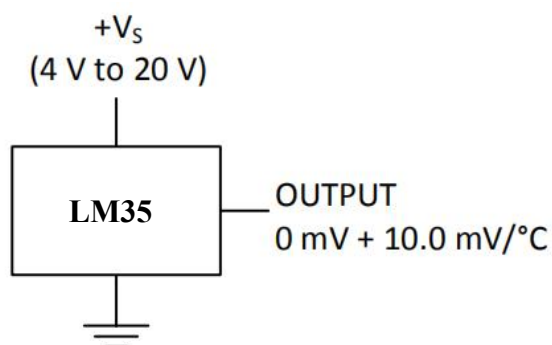

Figure 1. Basic Centigrade Temperature Sensor (2°C to 150°C)
Unless otherwise noted, these specifications apply: $-40^{\circ}\text{C} \leq T_J \leq 125^{\circ}\text{C}$ for the LM35C; and $0^{\circ}\text{C} \leq T_J \leq 100^{\circ}\text{C}$ for the LM35D. $V_S = 5\text{Vdc}$ and $I_{\text{LOAD}} = 50 \mu\text{A}$, in the circuit of Full-Range Centigrade Temperature Sensor. These specifications also apply from 2°C to T_{MAX} in the circuit of Figure 1.
(1) Tested Limits are ensured and 100% tested in production.
- (2) Design Limits are ensured (but not 100% production tested) over the indicated temperature and supply voltage ranges. These limits are not used to calculate outgoing quality levels.
- (3) Accuracy is defined as the error between the output voltage and $10 \text{ mV}/^{\circ}\text{C}$ times the case temperature of the device, at specified conditions of voltage, current, and temperature (expressed in $^{\circ}\text{C}$).
- (4) Non-linearity is defined as the deviation of the output-voltage-versus-temperature curve from the best-fit straight line, over the rated temperature range of the device.
- (5) Regulation is measured at constant junction temperature, using pulse testing with a low duty cycle. Changes in output due to heating effects can be computed by multiplying the internal dissipation by the thermal resistance.
- (6) Quiescent current is defined in the circuit of Figure 1.